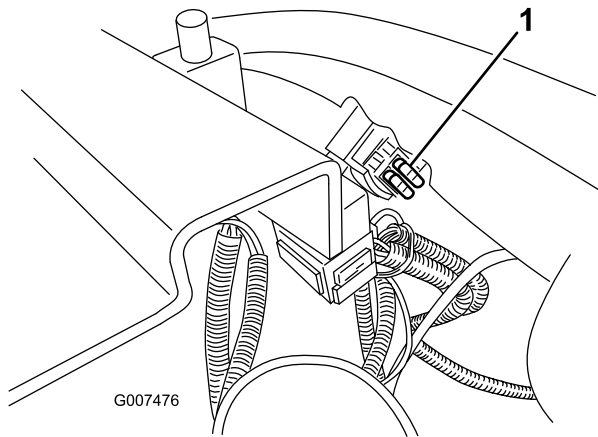

Figure 30
1. Pull out the fuse (Figure 30) to remove it from the socket.